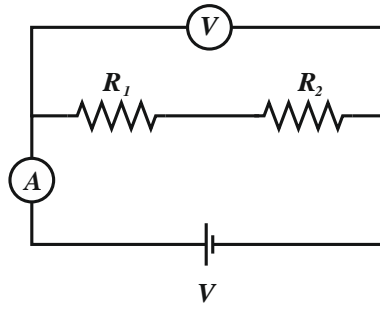

Figure 4.8 Experimental setup for resistors in series
10. Set the circuit up for resistors in series given in Fig.4.8.